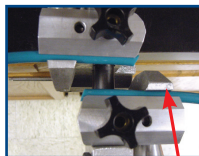

Fig. 3
8. Slide the end of the belt into rear die until it overhangs approximately 1.6mm (1/16"), but not more than 3.2mm (1/8"). Clamp belt into position by lightly tightening knurled thumbnut finger tight. On front (sliding) die, the flat side of holding clamp must face up. If not, turn knurled thumbnut counterclockwise and remove. Push holding clamp from base and rotate clamp 180° until flat side is up. Reassemble knurled thumbnut. Slide end of belt into front die and position exactly the same as rear die. Lightly finger-tighten knurled thumbnut. See Fig. 3.